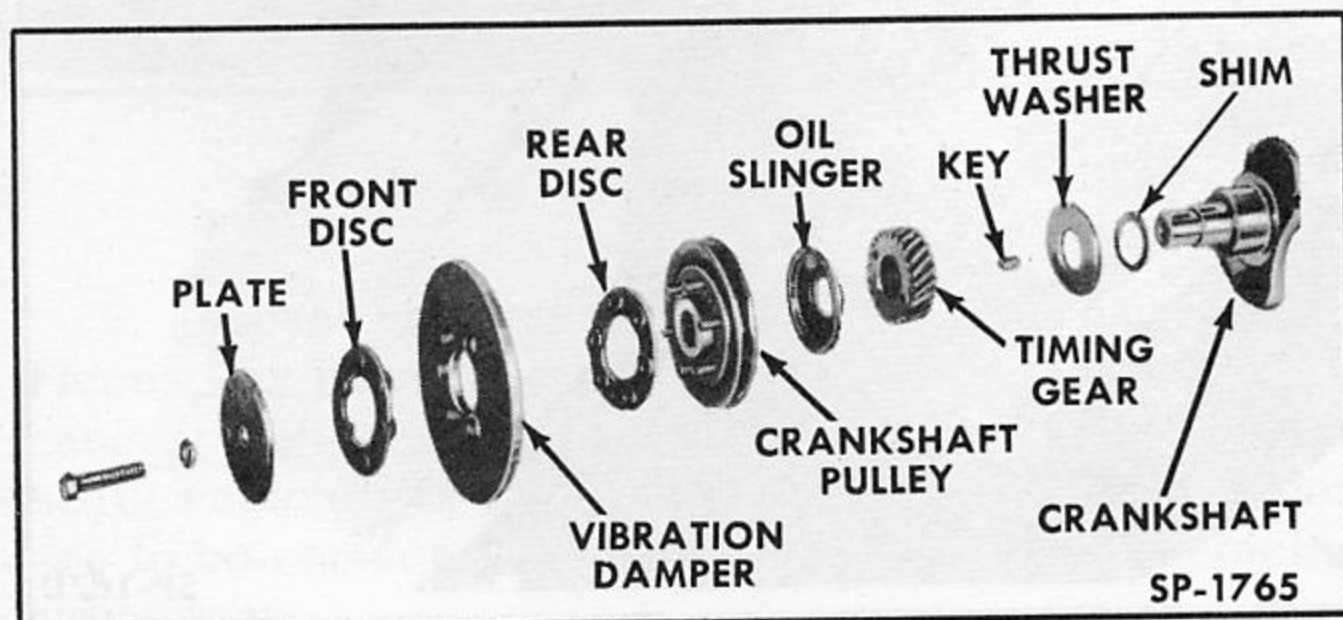

Fig. 48—Vibration Damper—6 Cylinder—Exploded View
4. The vibration damper is mounted on the front end of the crankshaft on six cylinder engines (Fig. 48). The damper is designed to reduce the amplitude of torsional vibration set up in the engine. The four cylinder engine, due to its shorter crankshaft, does not require a vibration damper. A distorted, broken or otherwise damaged vibration damper must be replaced. The rubber discs on which the damper is mounted must also be checked and replaced if they are deteriorated or damaged.